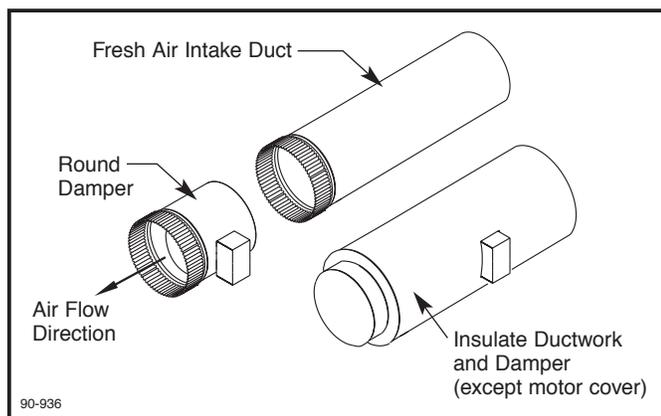

FIGURE 3 – DAMPER AND FRESH AIR DUCT INSTALLATION
Step 3: The fresh air intake duct and damper must be fully insulated and all seams must be sealed to prevent condensation from forming. Refer to Figure 3.